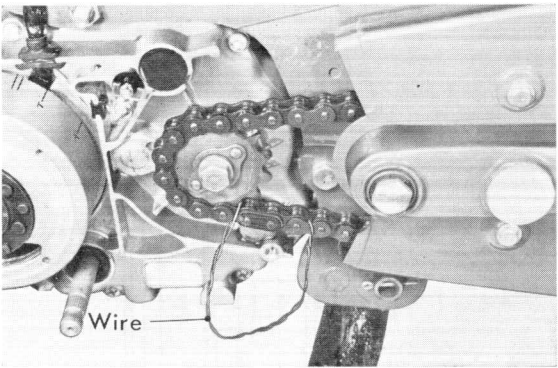

Figure 3-6. Removing the drive chain
- (8) Disconnect the clutch cable (S50, S65)
- (9) Remove kick arm and gear change pedal
- (10) Remove the left crankcase cover and the electrical leads.
- (11) Rotate the rear wheel to position the chain joint as shown in Fig. 3-6 and disconnect the drive chain.
- (12) Disconnect the high tension terminal from the spark plug.
- (13) Remove the high tension cord clip installed on the right crankcase cover.